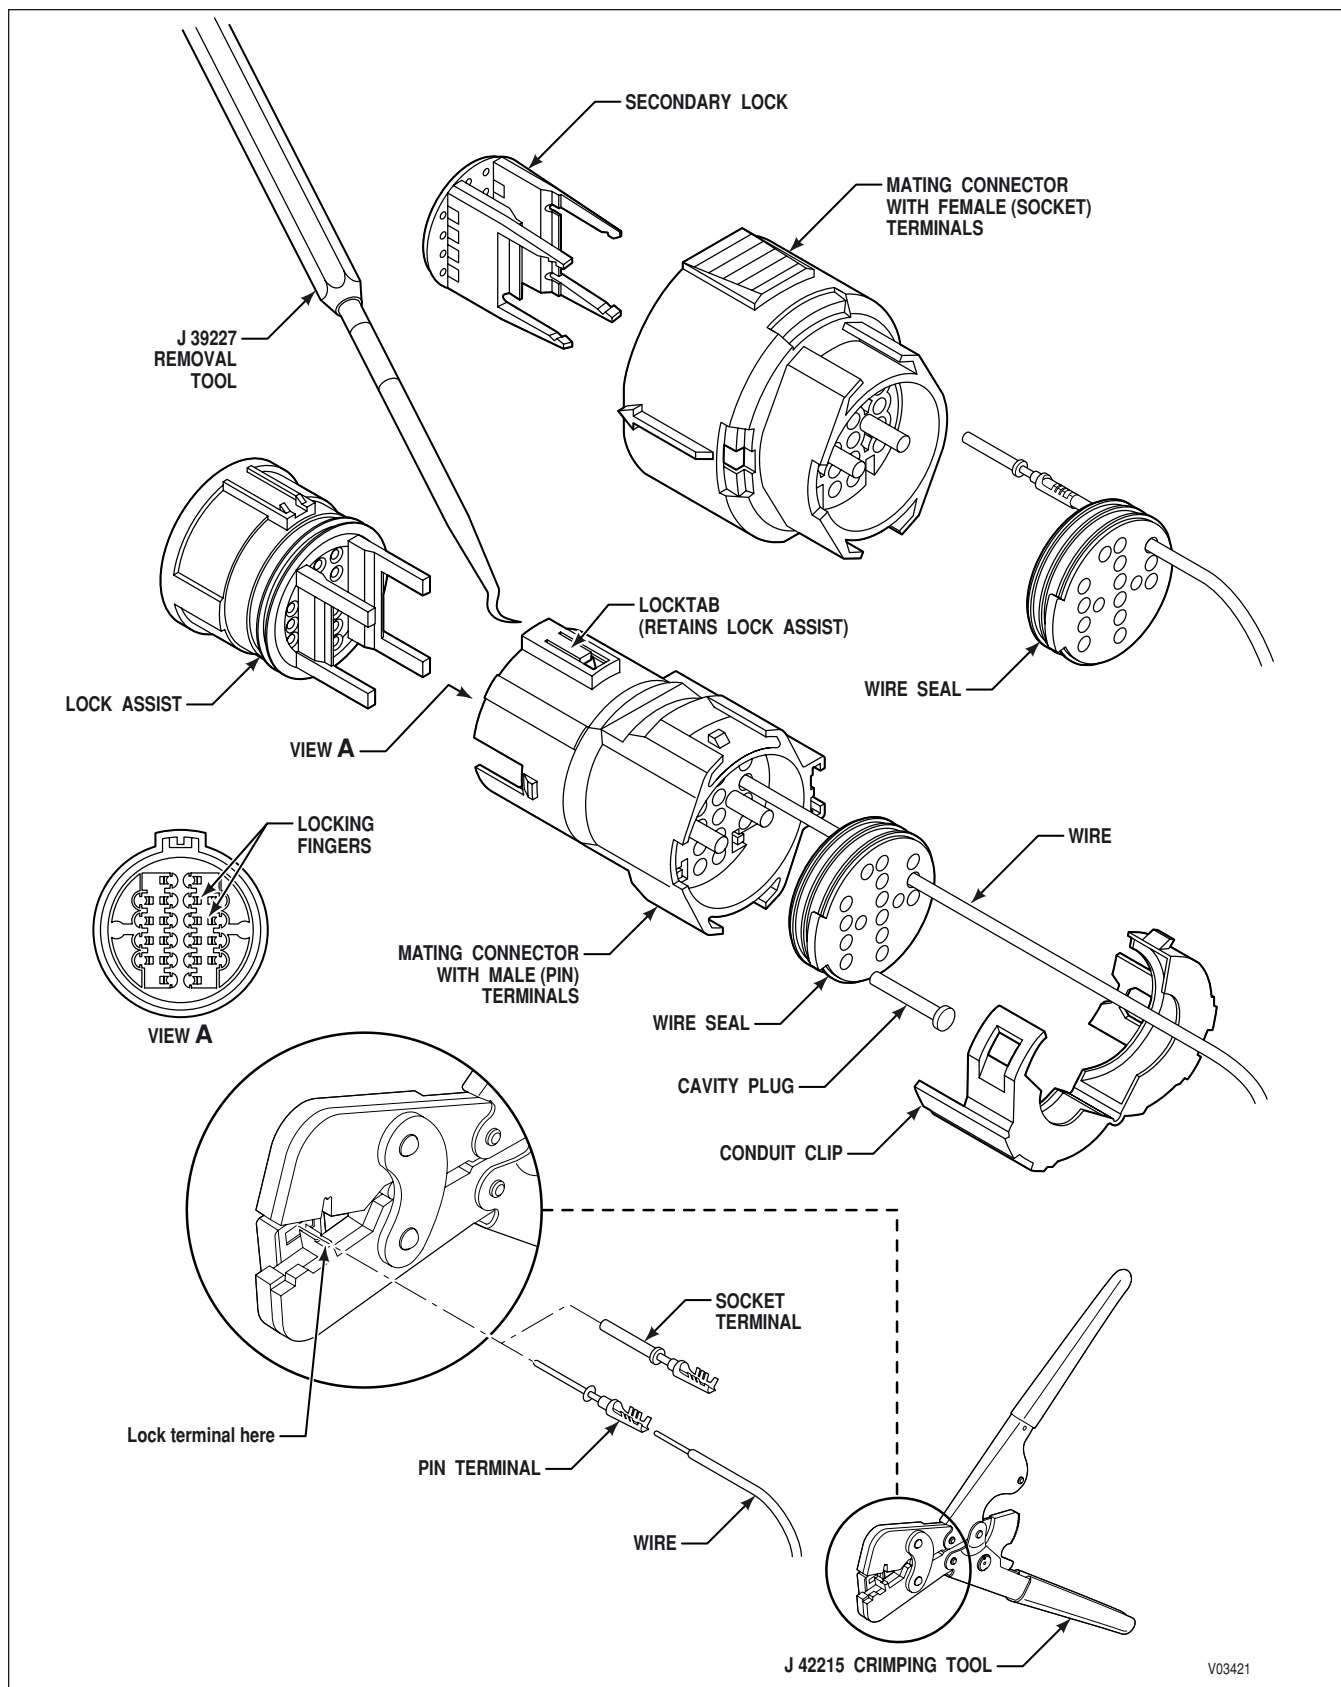

Figure C-1B. Delphi-Packard Micro-Pack Connector (VIWV, VIWS, Shift Selector)
- #### 2. VIWV and VIWS Harness Connectors and Shift Selector (Device) Connectors (*Figure C-1B*)
- #### 3. VIWV and VIWS (Device) Connectors and Shift Selector Harness Connectors (*Figure C-1B*)
4. Complete terminal installation for VIW and Shift Selector Connectors as follows: (*Figure C-1B*)